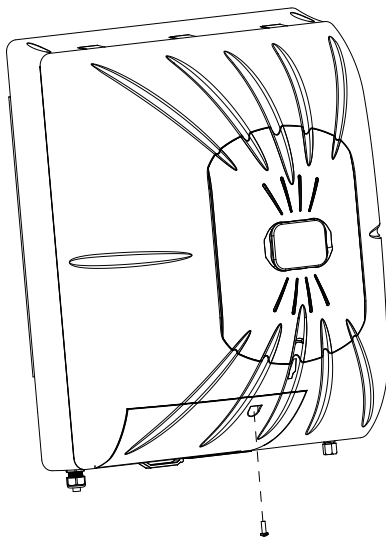

Figure 11
4. Remove the screw that secures the wiring access cover. See Figure 11.